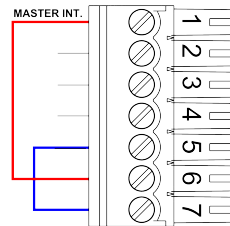

Figure 2.22: Permanently *Interlock*(not recommended)
- Input activated permanently(Fig. 2.22). This connection can be used an initial testing *Digital IN* but is not recommended during normal device operation .